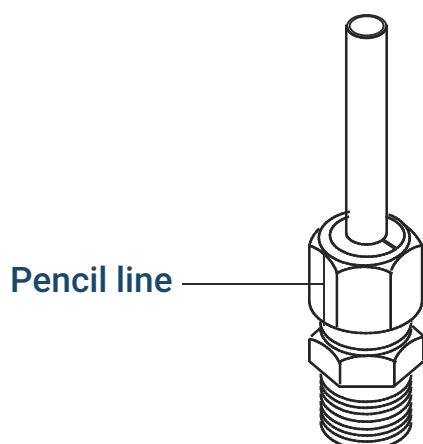

Figure 27. Marking the fitting
6. Mark the nut with a pencil line. See **Figure 27**.